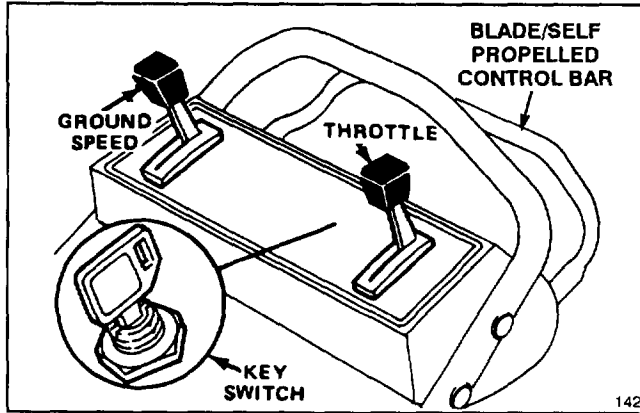
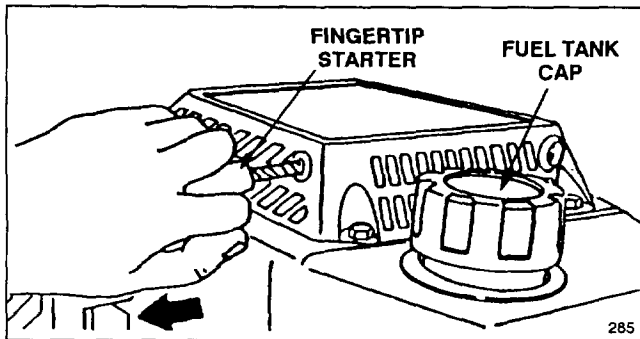

Figure 6
Figure 7
1. Clean around fuel tank cap (Fig. 7) and remove cap from tank. Using unleaded gasoline, fill fuel tank to within 1/4" to 1/2" (6 to 13 mm) from top of tank, not into the filler neck. This space is for expansion of fuel. Do not fill tank full.
1. **CONTROLS**—Key switch (electric start model only), ground speed control, throttle, and blade/self-propelled control bar are on upper handle (Fig. 6). Fingertip starter is on top of engine (Fig. 7).
4a. **KEY-ELECTRIC STARTING** (electric start model only)—Move throttle to **CHOKE**. Turn key to **START** and release when engine begins running. When engine starts, remove throttle from **CHOKE** and regulate engine speed between **FAST** and **SLOW**. If the battery's charge is too weak to start the engine, the engine can be started with the fingertip starter (Fig. 7).
5. **GROUND SPEED** (Fig. 6)—Move ground speed control to desired setting. Number "1" is slow, "2" is medium, and "3" is a fast walking pace. Move ground speed control to "N" when using the mower